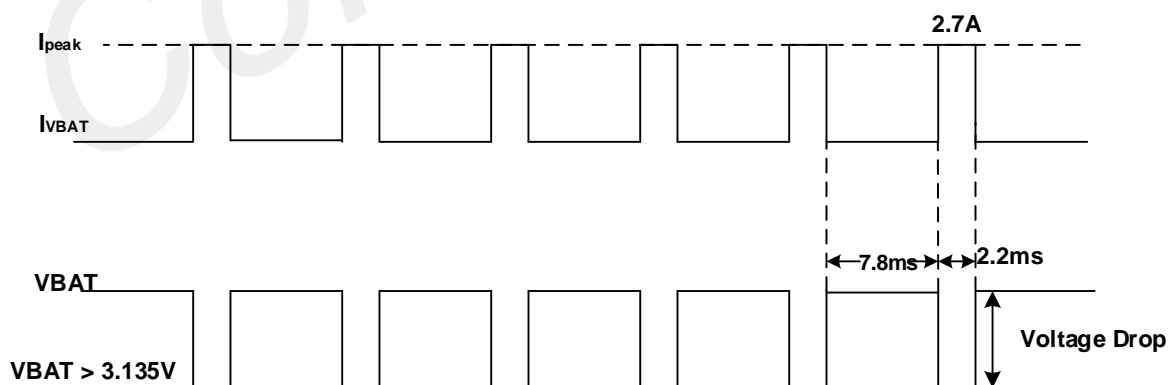

Figure 4: VBAT voltage drop at the maximum power radio transmission
2. The I_{peak} data in Table 6 and Figure 4 were tested using SIMCom EVB and connect instrument.